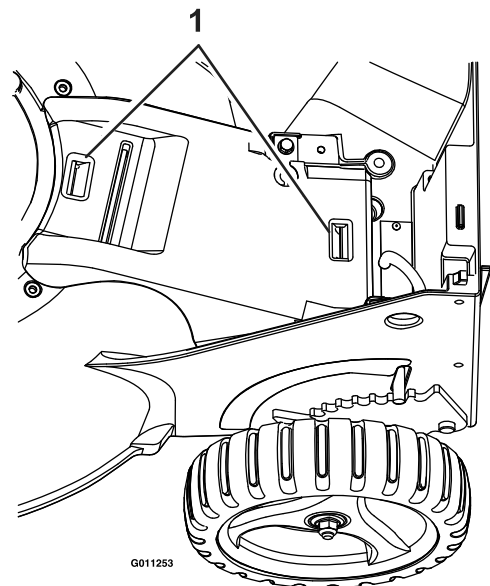

Figure 28
cover tabs (see Figure 28). Remove any debris under the cover.
3. Pull upward on the back of the cover to unsnap the front and back cover tabs (see Figure 28).